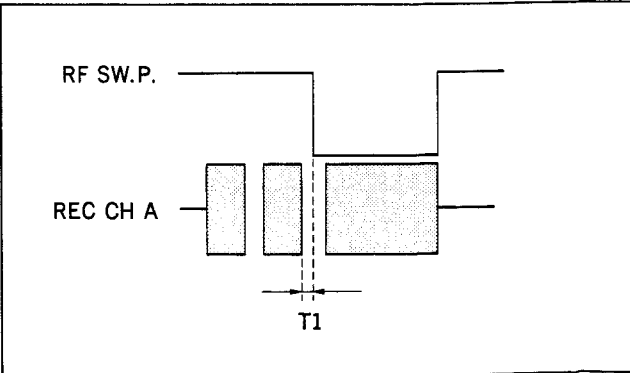

Fig. 6-10-2 Switching position check (REC A) ②
- 4. Use the REC head PB harness in the same condition as section 6-9, item 1.
- 6. Check the error T1 of the wave shape indicated in the figure to satisfy specifications 1. (See Fig. 6-10-2)
- 1. If specifications 1 is not satisfied in the check of section 6-10-1, perform the adjustment following. (See Fig. 6-10-2.)